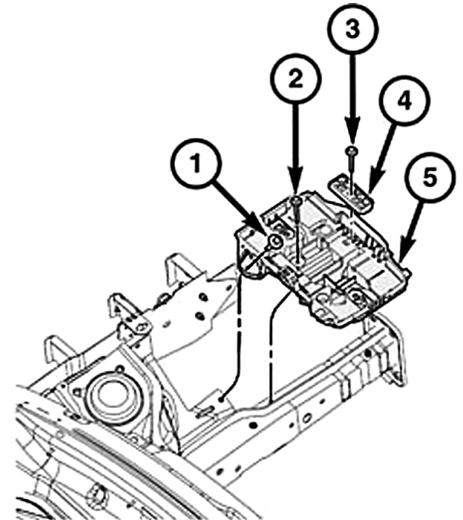

Fig. 2 Battery clamp location
4. Remove clamp (4) that secures battery to battery tray, **Fig. 2**.
5. Remove battery (2) from vehicle, **Fig. 2**.